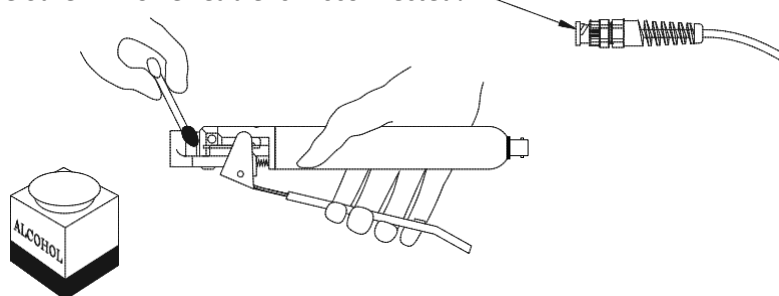

Figure 4-3, Cleaning the Sealing Region
3. Clean the open sealing region with alcohol (denatured or isopropyl) applied to one end of a cotton swab. See Figure 4-3, Cleaning the Sealing Region. *Be sure the RF power cable is disconnected from the Sealing Head!*